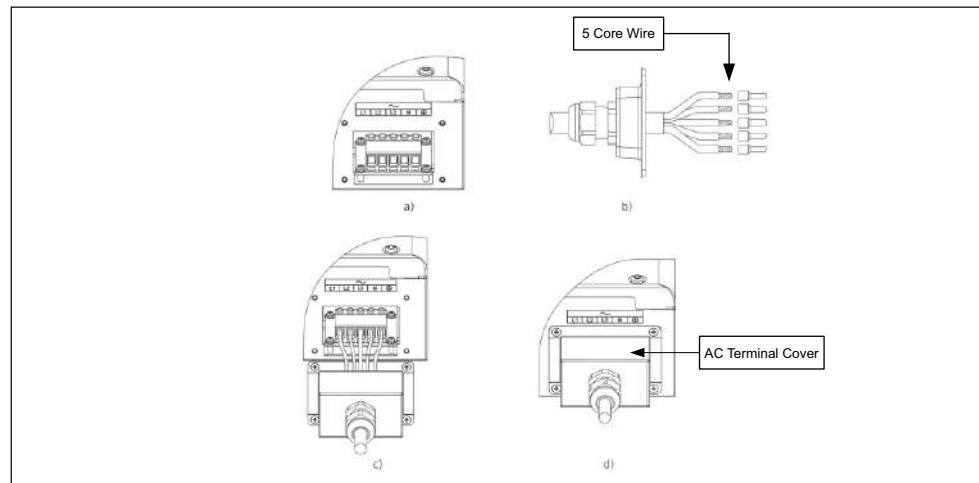

Fig 14
- 4) Fig 14(a) shows labels for AC connections.
- 5) Insert 5 core wire through gland and cover as shown in fig 14 (b).
- 6) Make connections as shown in Fig 14 (c).
- 7) Tighten the cover and gland properly as shown in fig 14 (d).